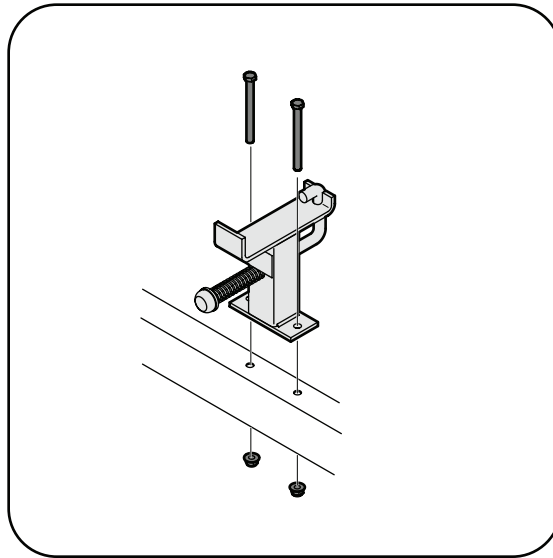

Figure 3-1
1. Remove the two hex bolts and lock nuts from the tongue. See Figure 3-1.